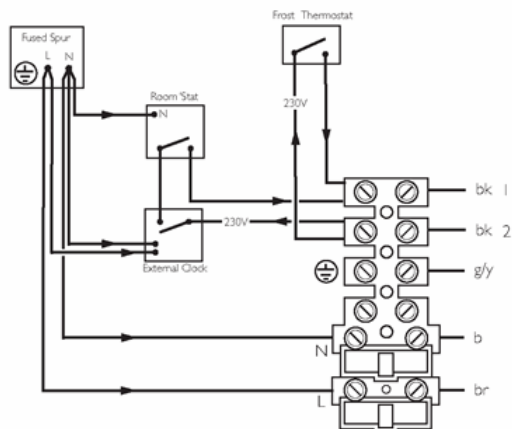

Fig. 57
6. Remove the link between terminals 1 & 2. The 230V supply at terminal 2 must be connected to the thermostat. The switched output from the thermostat must be connected to terminal 2. (Fig. 57).